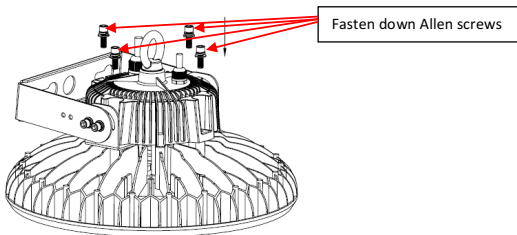

Fig. 5
- Position the driver housing over the bracket ensuring all Allen screw holes are correctly aligned and fasten down the 4 Allen screws (see Fig. 5)